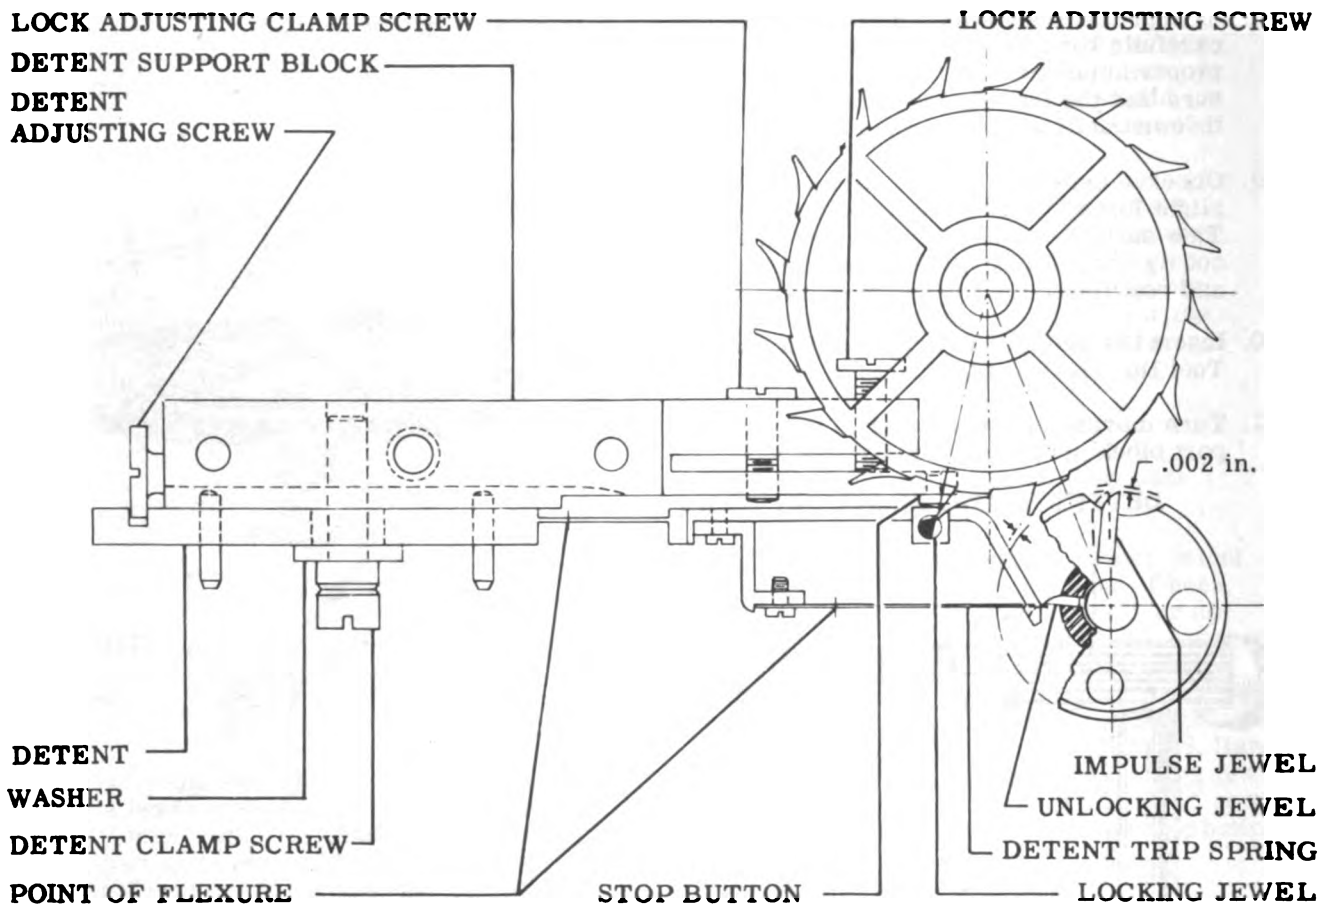

Figure 90
84. Check roller shake with special illuminator, Tool No. 104. See Fig. 90. Roller shake is the clearance between the impulse roller and the ends of the two escape teeth nearest to the impulse roller, when the escape wheel is in locked position. This clearance should be about 0.002 in. and approximately equal, or (preferably) be slightly more on the outgoing tooth. If the
approximately six degrees. Adjust, if necessary, by loosening the detent lock adjusting screw and turning the detent lock adjusting screw. Refer to Fig. 90 for the location of these screws.